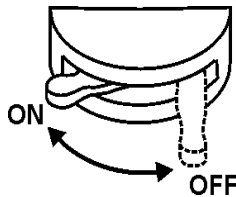

Figure 39. Battery ON/OFF Switch
5. Set the battery ON/OFF switch (Figure 39) to the ON position.